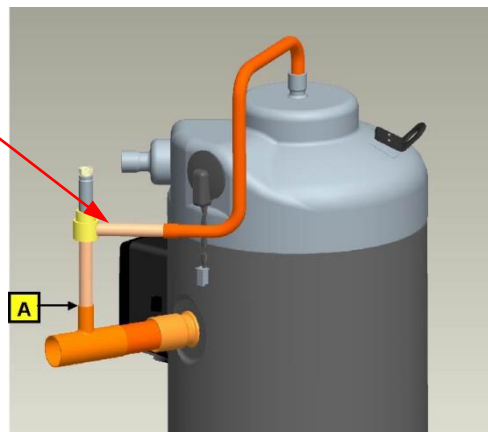
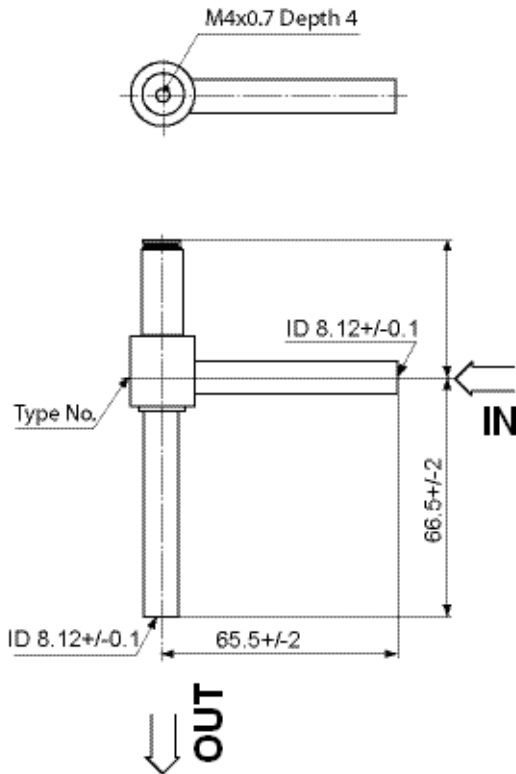

Figure 9: Recommended piping
Figure 10: Control valve without coil
- The valve operation is directional. See **Figures 10 & 11** below for inlet and outlet locations.
The tube from the solenoid to the suction, marked “A” (see **Figure 9**), should be as short as possible (less than 7.5 cm). Dimensions for a typical tube going from the top of the compressor are shown in **Figures 10 & 11**.